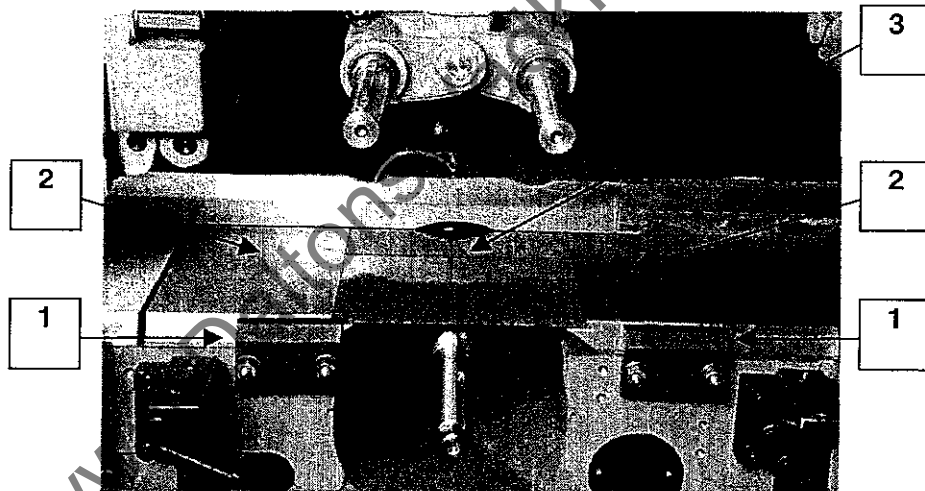

Figure 8.4.1
8.4 Splitting Bedplate (Figure 8.4.1)